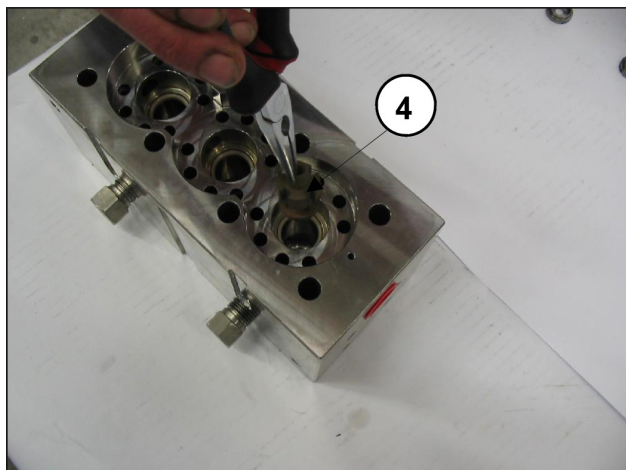
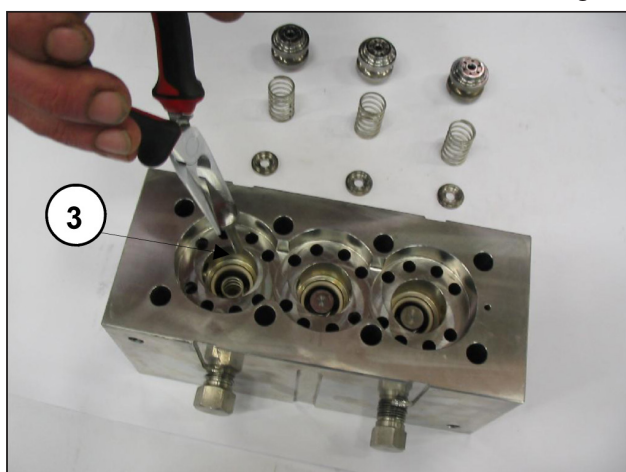

Fig. 26
Fig. 27
- Extract the outlet plates ③ and their guides ④ with the springs, as shown in Fig. 26 and Fig. 27, check for wear and replace if necessary, and in any case within the times indicated in the "PREVENTIVE MAINTENANCE" table of chapter 11 in the **Use and maintenance manual**.